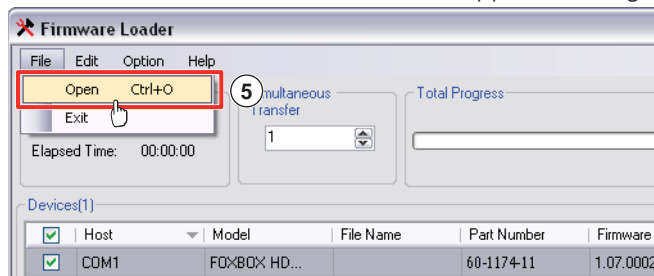

Figure 23. Extron Firmware Loader Window
- Click **OK**. The Firmware Loader window appears (see figure 23).